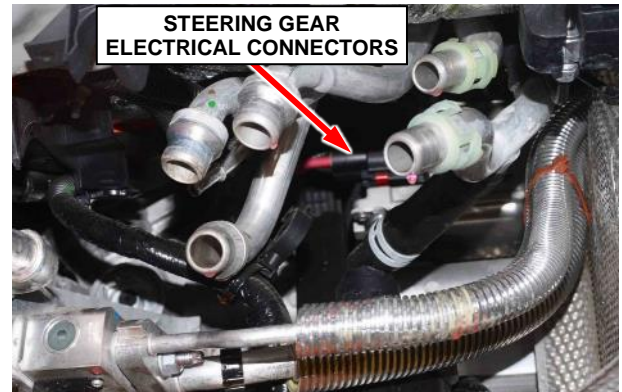

Figure 52 – Steering Gear Electrical Connectors
- 77. Disconnect the power steering gear electrical connectors (Figure 52).
99. Connect the power steering gear electrical connectors (Figure 52)